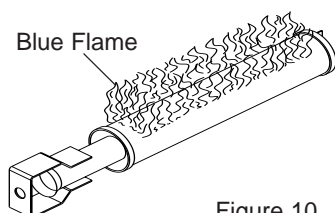

Figure 10.
2. Visually inspect the main burner and the pilot burner flame. The normal color of the flame is blue. When flame appears yellow, burners should be inspected and cleaned; see Figure 10.